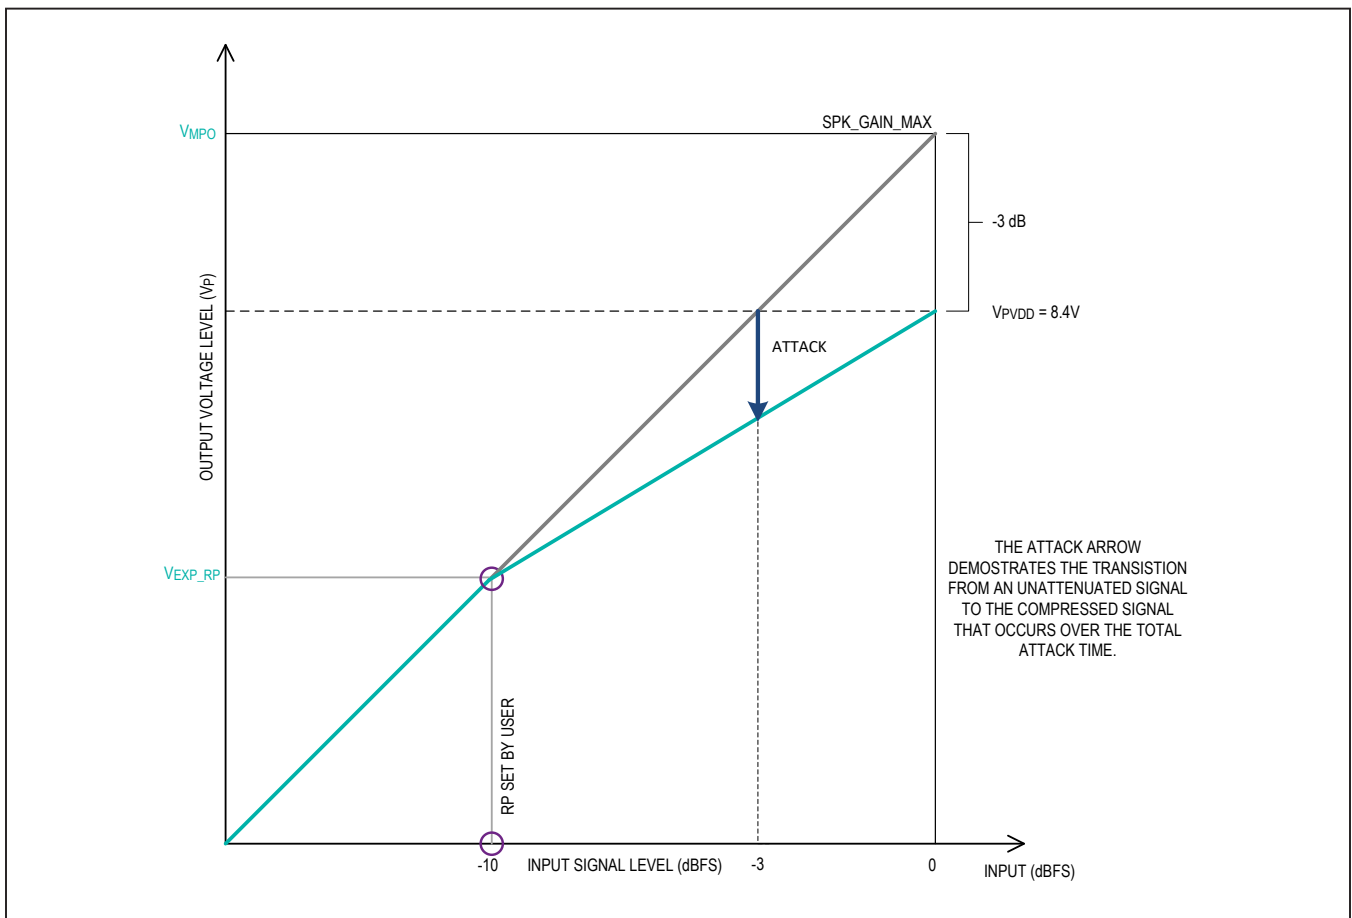

Figure 14. Dynamic Headroom Tracking Attack Functionality
When an input signal exceeds the rotation point, DHT applies attenuation to the signal over some amount of time (this is configurable through the DHT\_ATK\_RATE register 0x32). The instant that the large signal is input to the MAX98372, the output tries to reproduce that signal without any attenuation from the DHT. Over time, the DHT applies compression to ensure that the signal can fit within the available PVDD voltage. If a large enough input signal is applied there can be hard clipping on the output for a short time (Figure 14). However, after the full attack time has completed, there should be no clipping. Hard clipping can also be prevented by using the limiter. See the Limiter section.
where PVDD(V) is the voltage readback from the PVDD ADC, and VMPO is the maximum peak output voltage (VMPO), see Figure 14. For example, if VPVDD = 12V and VMPO = 12V, then PVDD(dBFS) = 0dBFS. It should be noted that 0dBFS is the maximum value for PVDD(dBFS). If solving Equation 1 returns a value greater than 0 then 0dBFS should be used for further calculations. This is important as DHT only ever applies attenuation and never positive gain.